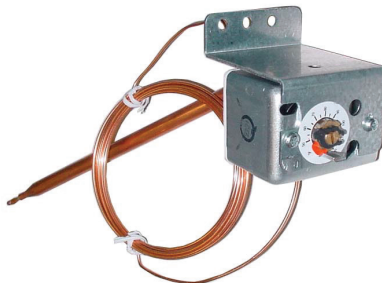

Figure 14. Unit-Mounted Ductstat
- **Ductstat with capillary tubing (option AG3):** The unit-mounted ductstat (see Figure 14) has an adjustable range of 0°F to 100°F (–17.8°C to 37.8°C) with a fixed differential of 3°F (1.7°C). The sensor is factory-set at 70°F (21.1°C). Due to different CFM settings and outside air temperatures, the average downstream outlet temperature may not match the ductstat setting exactly. After the installation is complete, adjust the setpoint of the ductstat to achieve the desired average outlet air temperature.